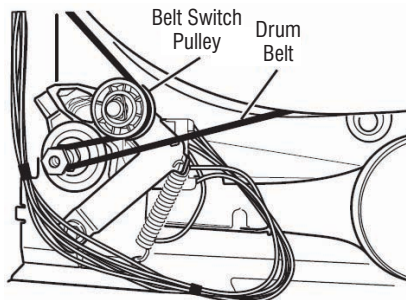

Figure 8 - Slowly remove drum belt.
- 7.** Check the drive motor and belt switch. Slowly remove the drum belt from the spring-loaded belt switch pulley, gently letting the belt switch pulley down. See Figure 8.